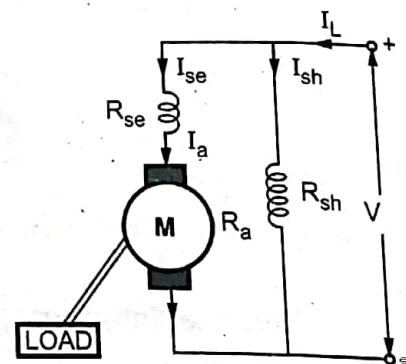

Fig. Q.45.3 Long shunt compound motor
- The shunt field winding is connected across the combination of armature and the series field winding as shown in the Fig. Q.45.3.